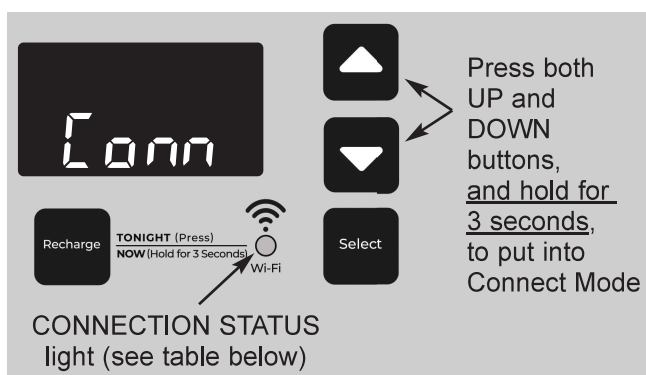

FIG. 30
3. On the water softener's front panel (see Fig. 30), press both the $\triangle$ UP and ∇ DOWN buttons, and hold them for 3 seconds.
4. Release the buttons when “Conn” appears in the display (See Fig. 30) and the connection status light begins flashing amber.